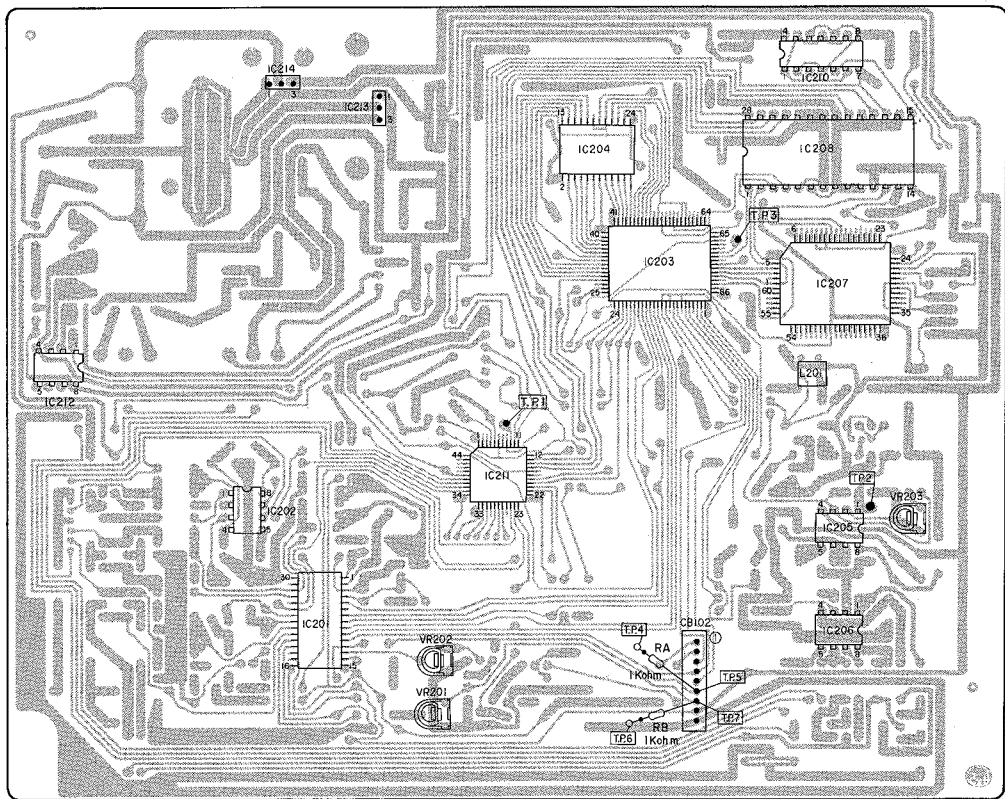

Figure 34
- (1) Set the 1K ohm resistor on the Focus Servo signal line as shown in Figure 34 connect CB102 from the digital P.C. Board as shown in Figure 30.
- (2) After switching the power on, load a disc and set the to play mode.
- (3) When the oscillator reads 500mV at 1.2KHz, adjust VR201 for the both ends of the resistors (T.P. 6 and T.P. 7) to obtain respectively 500mV.
- (1) Disconnect CB102 of the digital P.C. Board. After setting the 1K ohm resistor on the tracking signal. Line as shown in Figure 34 connect the unit as shown in Figure 30.
- (2) Switch the power on, load a disc and set the unit to Play mode.
- (3) When the oscillator indicates 500mV at 1.2 KHz, adjust VR202 for voltages of the both ends of the resistor (T.P. 4 and T.P. 5) to obtain 500mV respectively.